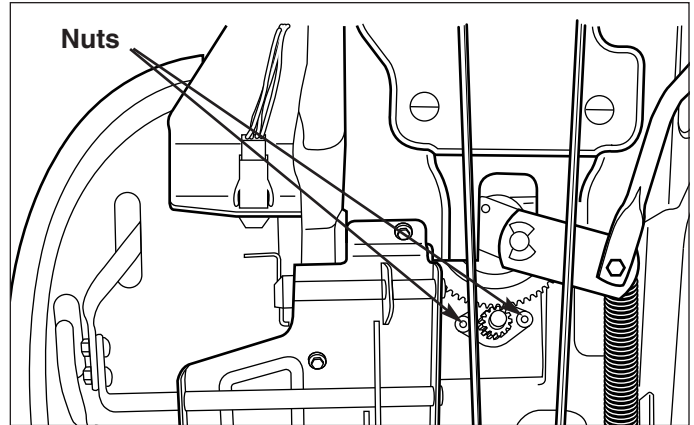

Figure 28. Steering Gear Adjustment
1. See Figure 28. Locate the steering gear assembly on the underside of the tractor. Loosen the two nuts and adjust the bracket so the gear teeth are closely meshed.